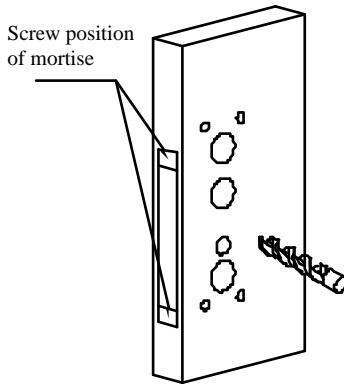

Figure 3
3) drill the relative hole at the front of the door. Show as Figure 3.